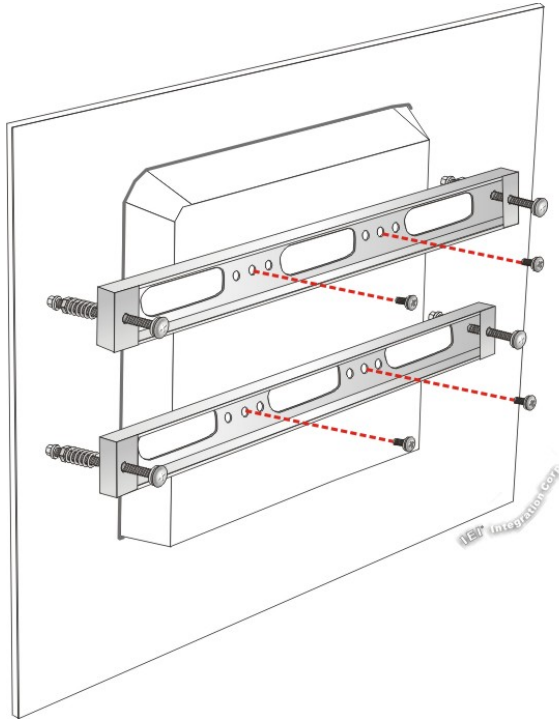

Figure 3-23: Securing Panel Mounting Brackets
Step 7: Secure the two panel mounting brackets to the rear of the panel PC by inserting the four retention screws into the VESA mounting holes and tightening them (**Figure 3-23**).